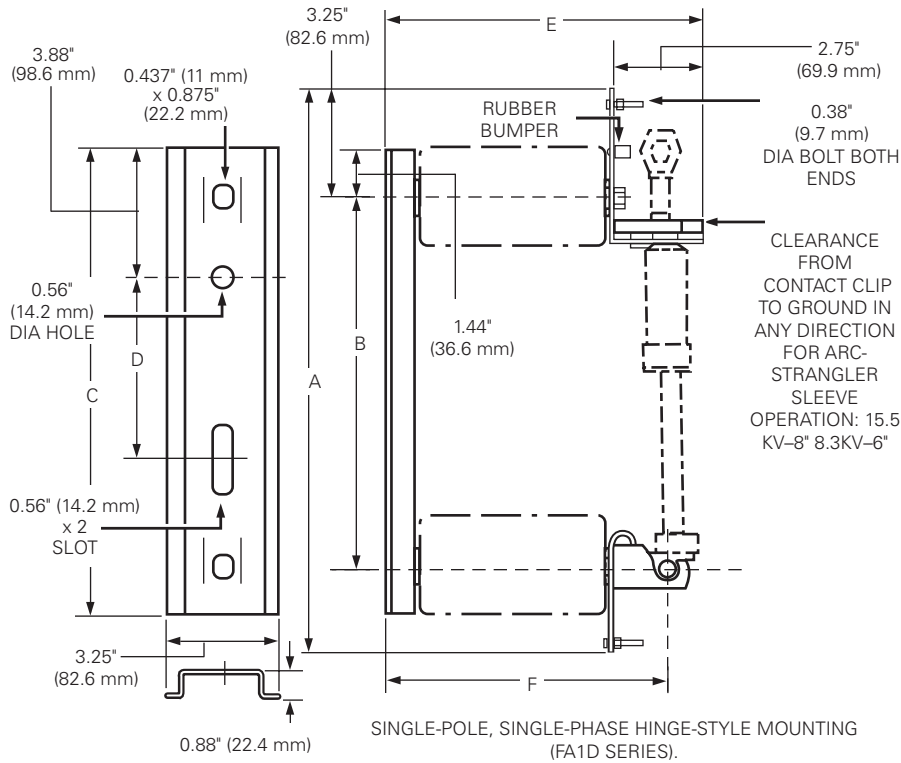

Figure 3. Single-pole, single-phase hinge-style mounting FA1D series (refer to Table 3 for dimensions).
15.5	125	2	FA1K3	—	25.25 (641)	15.5 (394)	18.38 (467)	8.62 (219)	11.4 (290)	—
** See Figure 3 for dimensional drawing.